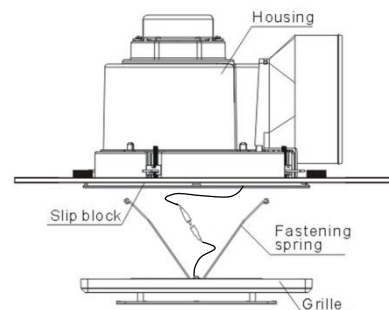

Fig. 4 – Fix the fan in place and install cover
10. Position fan in hole and with screwdriver, rotate mounting screws until slip blocks firmly secure fan onto ceiling plaster. *Do not over-tighten.* (Fig 4)
11. Replace front fascia by locating spring hole slots in body or fan. (Fig 4).